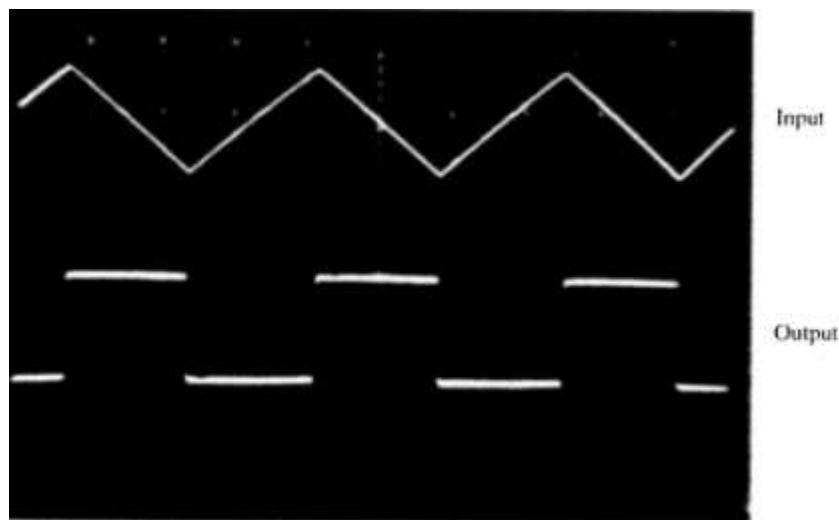

FIGURE 14-3
2. Apply the power to the breadboard and adjust the peak-to-peak voltage (v_{in}) of the input triangle wave at 1 V and the frequency at 400 Hz. As depicted in Figure 14-3, the output signal is a square wave that is 180° out-of-phase with the input signal.